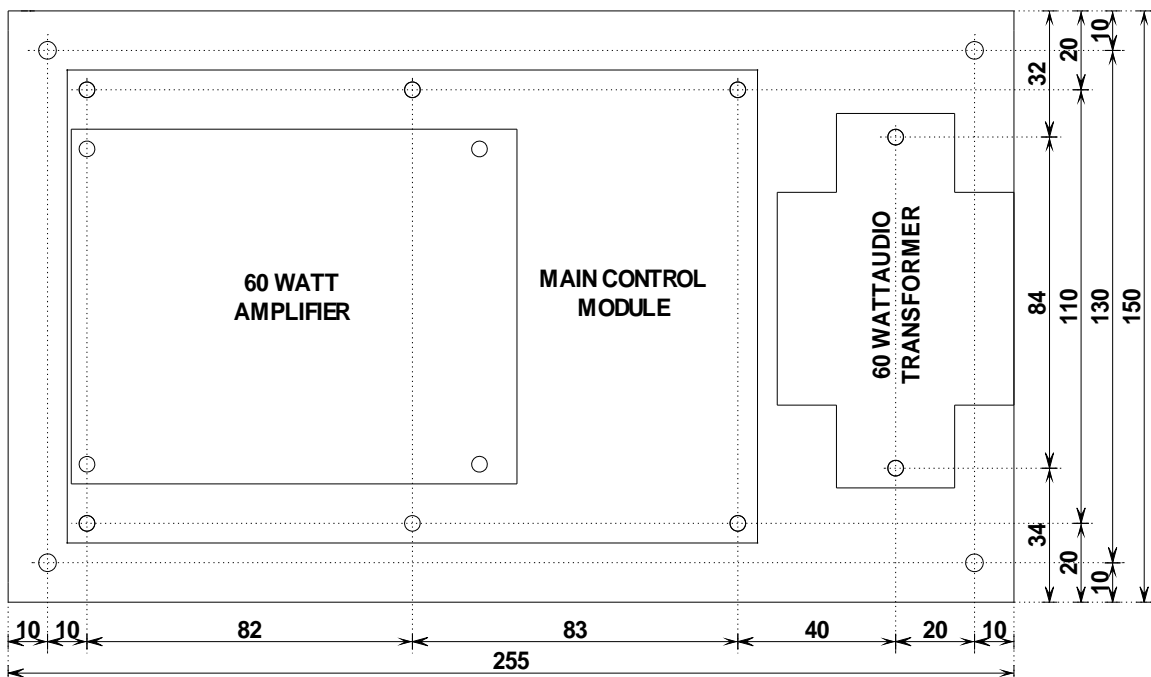

Figure 15 Brooks equipment plate CB586
1. Using figure 15 as a drilling guide, drill two holes for mounting the transformer. If drilling and tapping your fixings, use 3.2mm HSS drill bit & M4 tap. If using nut and bolt for your fixings, use 4.5mm HSS drill bit M4 nuts and bolts
2. Using Figure 15 on page 24, Fit four M3 x 25mm Hex Spacers (XF040), to holes shown in Figure 15 on the OWS Main Control Module as shown in the following two drawings..
3. Using Figure 15 on page 24 as a guide drill and tap the equipment plate of the CIE to suit the mounting holes for the main control board